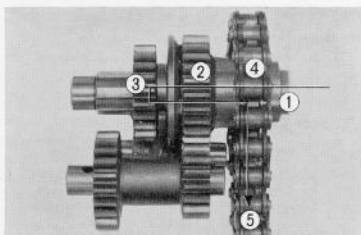

Fig. 3.114 High speed range
• High speed range (Fig. 3.114)